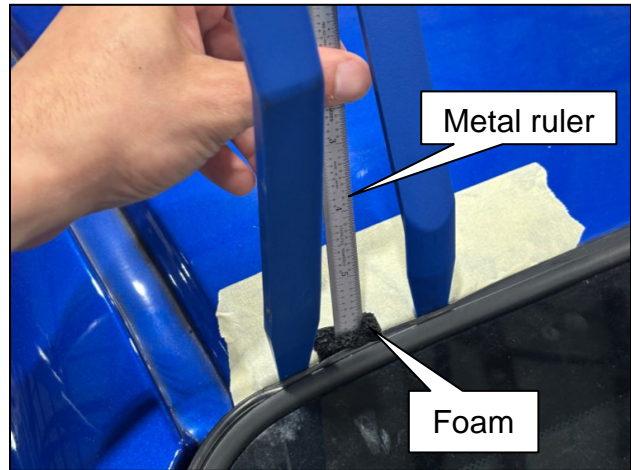

Figure 18
- Using a metal ruler or thin, flexible metal tool, push the foam down evenly beneath the windshield molding, as shown in Figure 18.